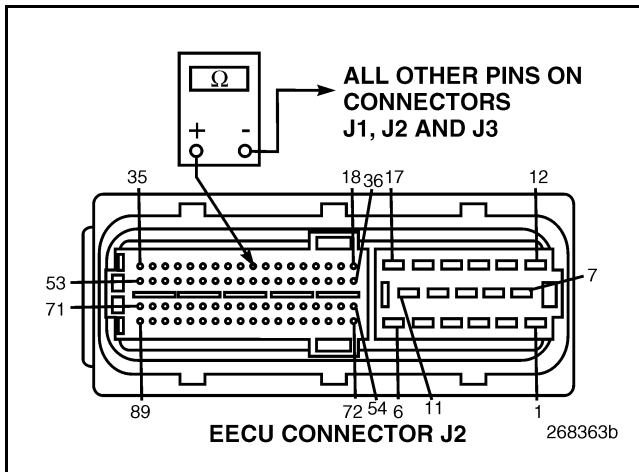

Figure 502
4. Check for continuity between EECU harness connector J2 pin 26 (reference voltage line) and all other pins in EECU harness connectors J1, J2, and J3 (see Figure 502).